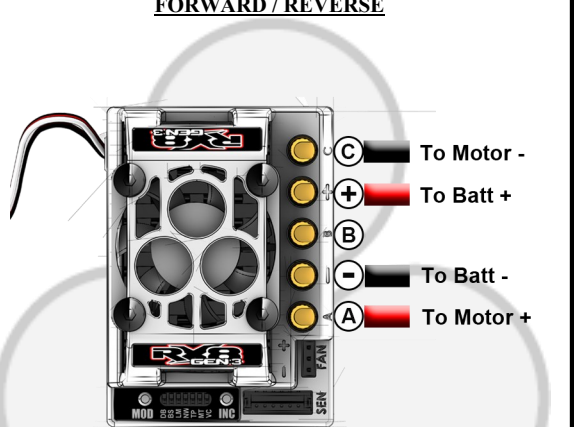

FIGURE 5.
The RX8 Gen3 utilizes Tekin’s D2™ Dual Drive Technology to auto detect sensors and drive brushless motors in the most efficient mode possible. D2™ uses the precise control of a full sensed system with the efficiency of sensorless drive at higher RPM to deliver the ultimate in drivable horsepower. The RX8 Gen3 also has the ability to run any brushed motor with no limit. Simply wire appropriately according to Figures 5 & 6, set the correct Motor Type and you’re ready to drive.
For Brushed Wiring Configurations Refer To Figs 5 or 6.
- 2) Wiring: Forward/Reverse Wiring (Motor Types 5&6): Refer to Fig. 5, connect motor NEG (-) terminal to speed control (C) post, then connect motor POS (+) terminal to ESC (A) post. NOTE: Speed control (B) post is not used.